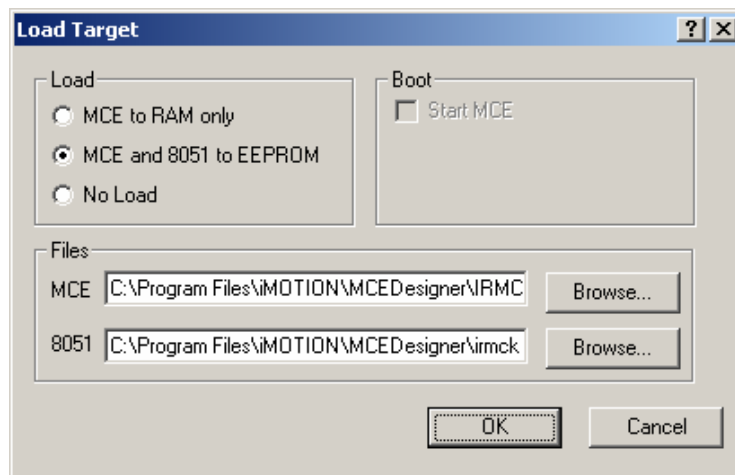

Figure 5: Load Target in MCEDesigner
3. Click on the System window and then select Tools→Load Target. The Load Target window is shown in Figure 5 above.